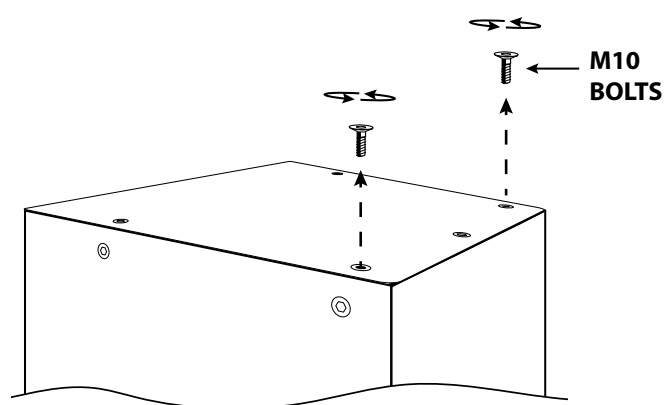

Fig 5
1. Remove the M10 flat-head bolts from the enclosure (see Fig 5).